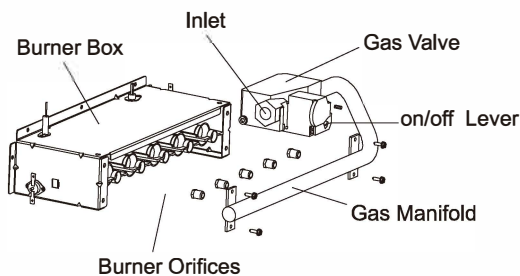

Fig. 8-1 Gas Manifold Blow-up
See Fig.8-1.
1. Remove and save two screws holding J-Box. (See Fig. 8-1.)